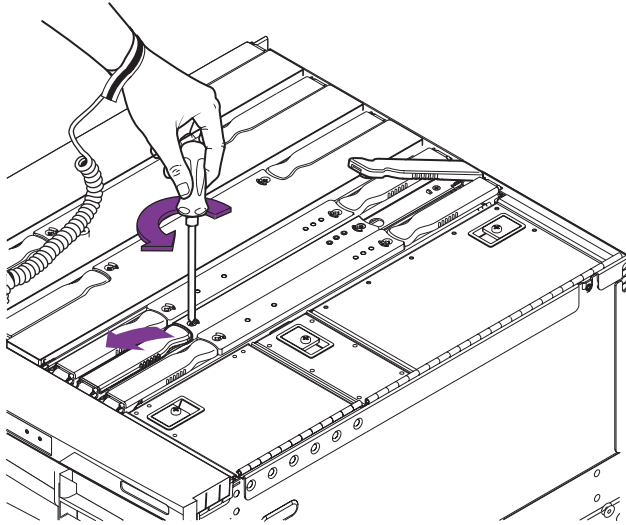

FIGURE 9-2 Unlocking the L2 Repeater Board Ejector Levers
8. **Unlock the ejector levers with a Phillips no. 2 screwdriver (FIGURE 9-2).**